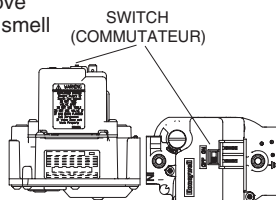

Figure 1
6. Move the gas control switch to the "OFF" position. (See Figure 1)
7. Wait five (5) minutes to clear out any gas. Then smell for gas, including near the floor. If you smell gas, STOP! Follow "B" in above information. If you don't smell gas, go to the next step.
8. Move the gas control switch to the "ON" position. (See Figure 1)